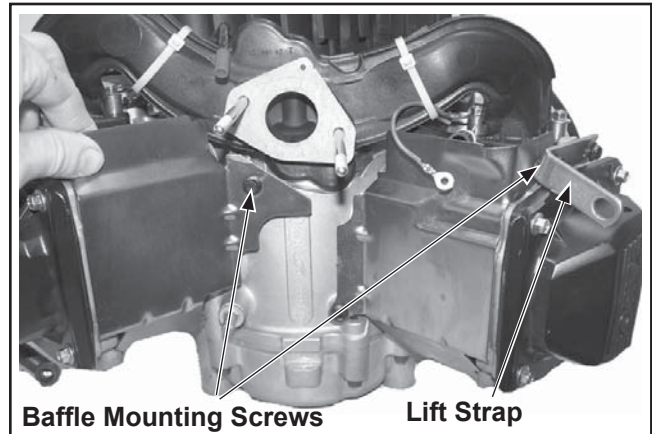

Figure 10-66. Installing Inner Baffles and Lift Strap.
2. Attach the inner baffles including any lifting straps to the cylinder head flanges and to the two crankcase mounting bosses. The lift strap should be outside the outer baffle. Secure with the M5 screws. See Figure 10-66. The remaining lower inner baffle mounting screws will be installed later.